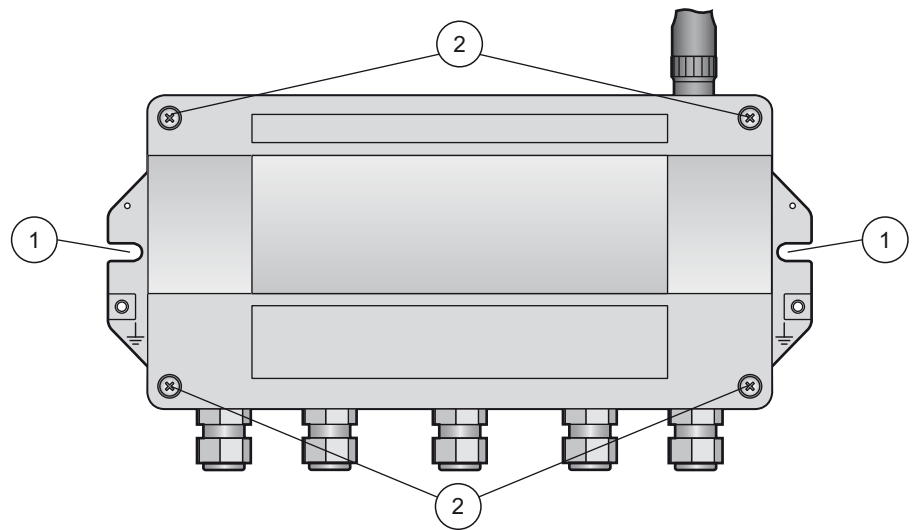

Fig. 4-5: Mounting holes and housing screws
3. Unscrew the 4 screws of the housing cover and remove the housing cover. See Figure 4-5 on page 21.
2. Unscrew the screws of the housing cover and remove the housing cover. See Figure 4-5 on page 21.